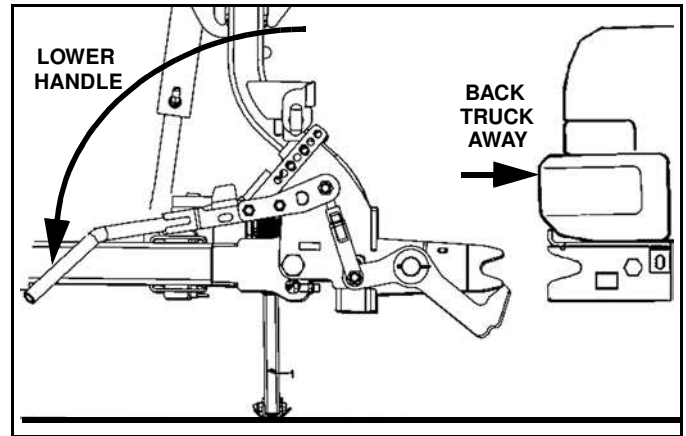

Figure 1-52
4. Pull safety pin on engagement handle to release and lower handle to disengage plow from truck. (See Figure 1-52).